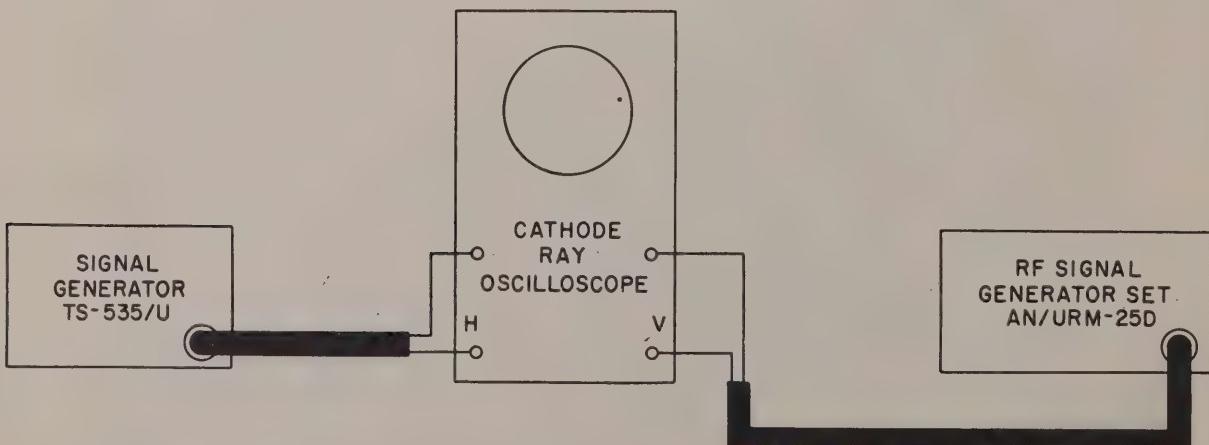

Figure 6-12. Method for Calibrating the RF Signal Generator Set AN/URM-25D at Frequencies Below 100 Kilocycles
(See figure 6-12).
(See figure 6-12 and Table 6-1).
(3) In using the heterodyne frequency meters referred to in paragraph 16 of this section, connect the output test cable (W104) to the heterodyne frequency meter. Plug a pair of earphones into the audio output of the frequency meter. Make the necessary capacitance and inductance adjustments while listening for a zero beat on the earphones.
(4) For calibrating frequency ranges below 100 kc, use the Signal Generator TS-535/U. Feed the output from the RF Signal Generator Set AN/URM-25D and Signal Generator TS-535/U to the horizontal and vertical inputs, respectively, of the oscilloscope, such as Oscilloscope OS-8/U, Navy Models OBL or OBT series (See figure 6-12). Adjust the frequency of the RF Signal Generator Set AN/URM-25D to the same frequency as the Signal Generator TS-535/U as indicated by a zero-shaped Lissajou pattern. Be sure to calibrate the Signal Generator TS-535/U according to its instruction book before using it as a standard in this procedure.
**c. CALIBRATION PROCEDURE (See figure 6-12 and Table 6-1)**
(1) To make the necessary RF trimmer and coil adjustments, it will be necessary to remove the top shield plate from the carrier oscillator compartment side of the casting which provides access to the trimmer condenser. It is also necessary to remove the screw plug from the casting to provide access to the oscillator coil. Identification of the appropriate coil and condenser is not necessary, since the correct components are automatically aligned with the access holes for each frequency band.
(2) The recalibration process consists of (a) adjusting the inductance for frequency calibration at the low-frequency end of the range, (b) adjusting the corresponding trimmer capacitor for a calibration point at the high end of the range, (c) rechecking the low end plus coil adjustment if necessary, (d) rechecking the high end if adjustment in step c is required, and (e) checking the center portion of range selected.
(3) After the adjustment has been made, replace the plate and plug and recheck calibrations. If the calibrations have been changed when this plate is replaced, readjust the applicable trimmer or core to compensate for this effect.
MODULATION CRYSTAL VOLTMETER	9. If the meter still does not respond to the % MOD-AUDIO OUT-XTAL CAL OUT control (R165), feed the output signal from the X-200K RF OUTPUT jack (J101) to a test oscilloscope. Set the carrier frequency at 100 kc. Place the MOD-XTAL & METER SELECTOR switch (S102) in the CW position. Advance the carrier control (R173) in a clockwise direction until a reading of "10" is obtained on the upper meter scale. With the external modulation applied as in par. 8 above, the modulated pattern should appear on the oscilloscope (figure 6-12). If it does, the trouble was in the modulation crystal voltmeter.